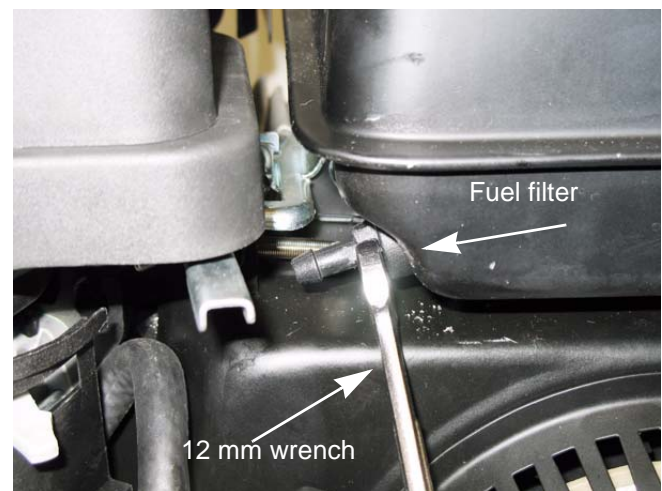

Figure 1.6
4. Remove the fuel tank nipple using a 12 mm wrench. See Figure 1.6.